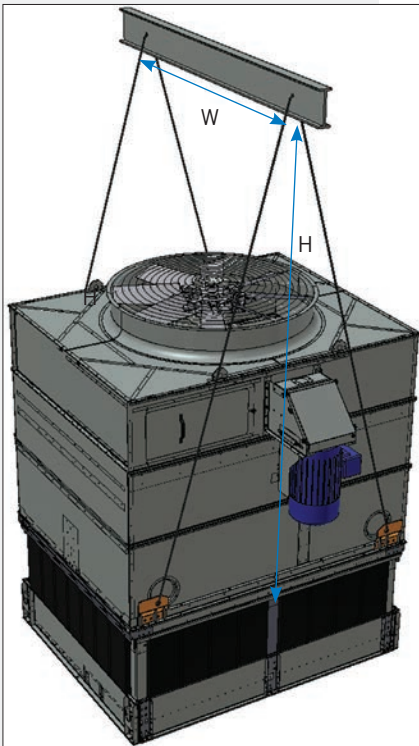
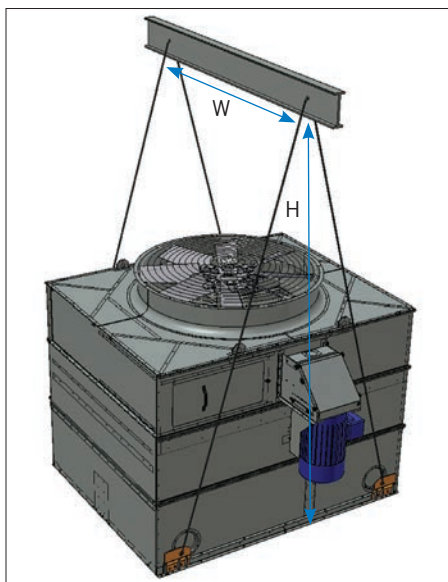

Figure 1. Single-Piece Lift
Figure 2. Upper Section Two-Piece Lift
Most single cell PF2 and PC2 products (except models with the optional extended surface coil (finned) or the optional heavy gauge coil) are designed to be lifted in one assembled piece as shown in **Figure 1**. A two-piece lift is shown in **Figures 2** and **3**. All sections, with the exception of the lower section, require the use of a spreader bar. The distance between the spreader bar lifting points must be equivalent to the width between the unit lifting ears.
2. **Figures 2 and 3** show the proper rigging of the sections for units that ship in two sections. Position the lower section on the steel support and bolt in place.